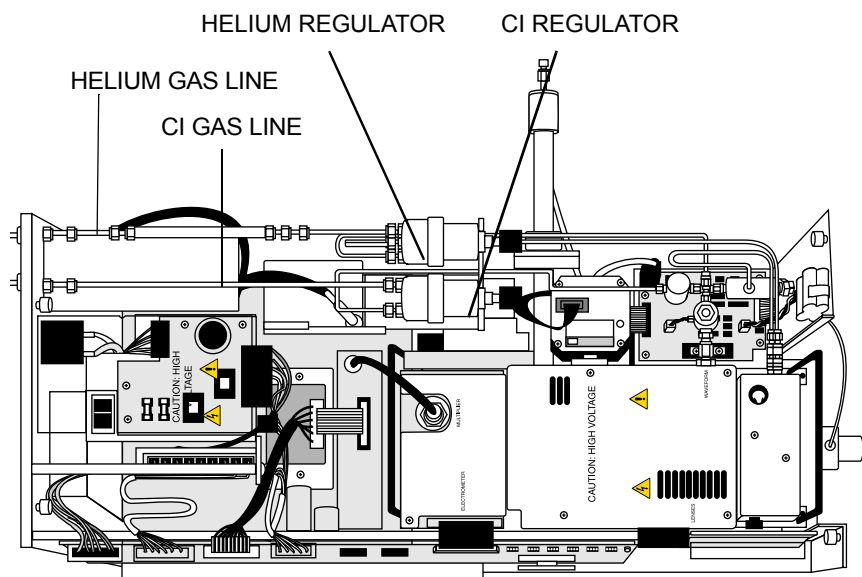

Figure 7-11. CI and Helium Regulators
3. Disconnect the two gas line fittings to the CI reagent gas pressure regulator. See Figure 7-11 for the location of the CI and Helium regulators.
3. Disconnect the gas line fittings to the helium gas pressure regulator. Figure 7-11 shows gas lines.